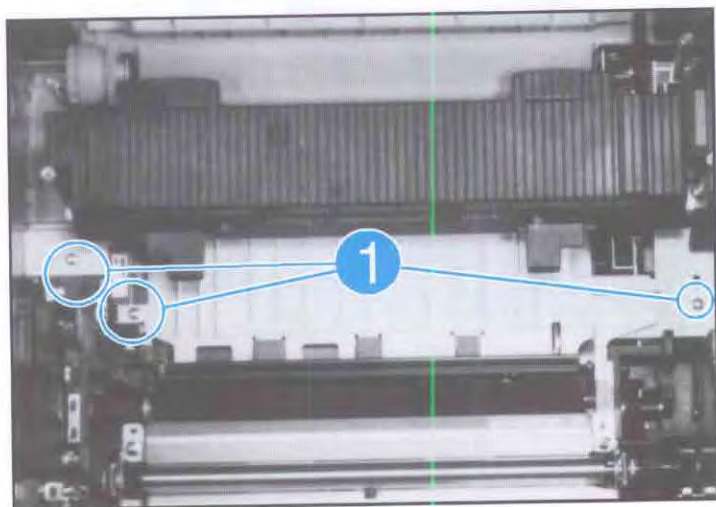

Figure 6-31, Transfer Guide
4. Remove the (3) screws securing the Transfer Guide and remove the guide (see Figure 6-31, callout 1).
4. Remove the Transfer Guide (see Figure 6-31).
5. Remove the Transfer Guide (see Figure 6-31).
7. The Transfer Guide (see Figure 6-31).
8. The Transfer Guide (see Figure 6-31).